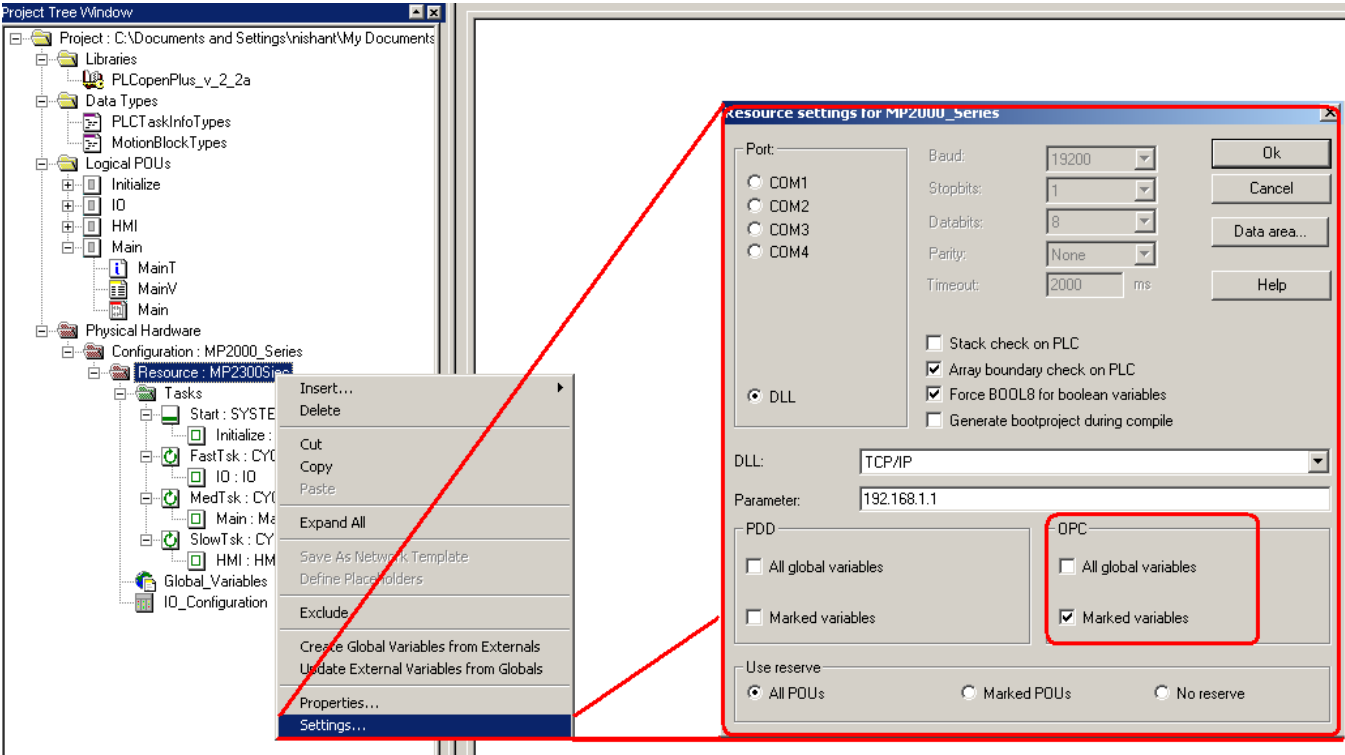

Figure 2: Controller resource settings to choose OPC items
Step 2: By default, all global variables in a MotionWorksIEC project are considered OPC items. In order not to use all global variables and to choose OPC variables of interest, go to the Resource settings for the controller in MotionWorksIEC and opt to use only marked variables as OPC items in place of all global variables (figure 2). Choose the OPC variables from the global variables worksheet by checking the OPC column as shown in figure 3.